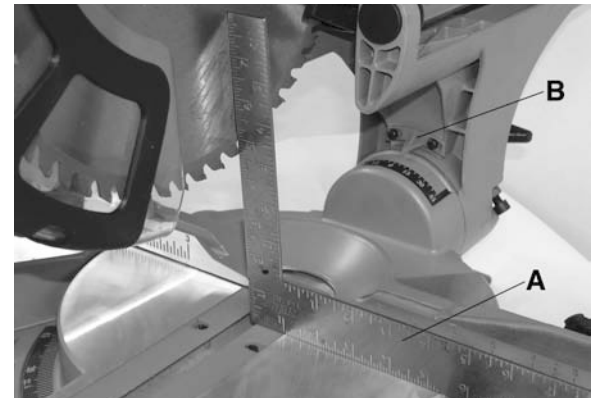
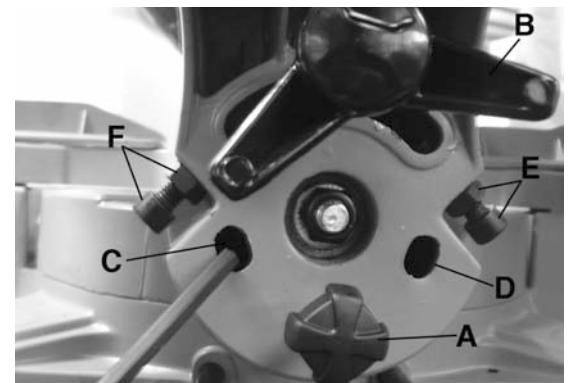

Figure 13
Figure 14
7. Place a square (A) Fig.13 against the table and the flat part of the blade body.
11. Make sure the positive stop adjustment knob (A) Fig.14 is pushed in all the way and the bevel lock knob (B) is fully tightened. Loosen the two screws (C & D) inside the pivot bracket using a hex. key.
12. Loosen bevel lock knob (B) and adjust the head of the saw in or out to bring the saw blade into alignment with the square.
13. Once perfectly aligned, retighten the bevel lock knob (B) and the two screws (C & D) inside the pivot bracket. Recheck the alignment.
14. Readjust bevel pointer (B) Fig.13 to line up with the  $0^{\circ}$  on the bevel scale.
1. Loosen the hex. nut and cap screw (F) Fig.14.
4. Once the head is at a perfect  $45^{\circ}$  angle, tighten bevel lock knob (B), then tighten the cap screw (F) against the bevel lock knob (B) shaft and tighten hex. nut (F).
5. Repeat the above steps for the right side  $45^{\circ}$  stop bolt using the hex. nut and cap screw (E).